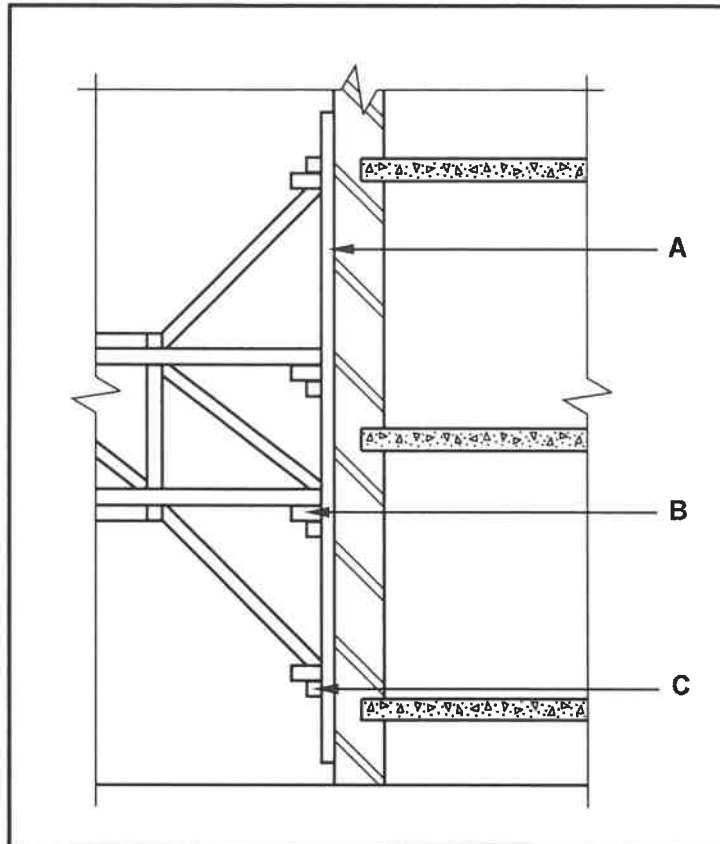

FIGURE 5.1
5.1 FIGURE 5.1 below shows a part of an incomplete shoring.
- 5.1.1 Identify the type of shoring shown in FIGURE 5.1. (1)